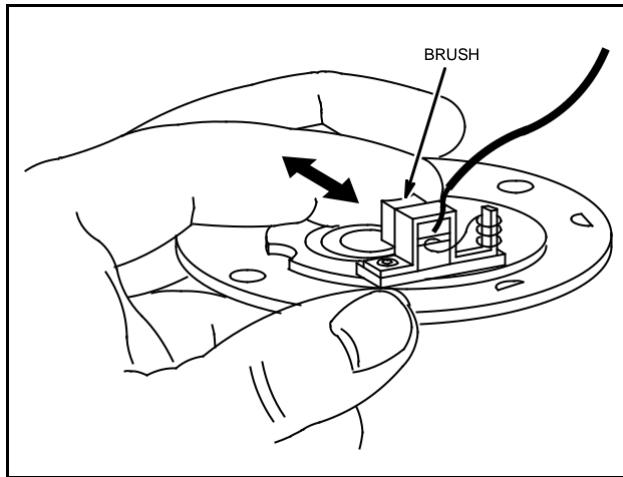

Fig. 672 - CHECK BRUSHES
9. The brushes should be checked for poor seating, weak brush springs, dirt, oil or corrosion, Fig. 672.